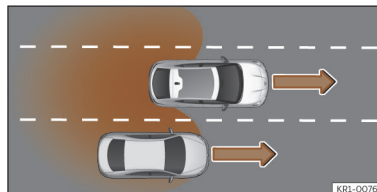

Fig. 154 Overtaking in the central lane and then joining the right lane.
- When overtaking another vehicle >>> **Fig. 154** with a speed difference of approx. 10 km/h (6 mph). If the vehicle is passing at a considerably higher speed, no indication will be displayed.